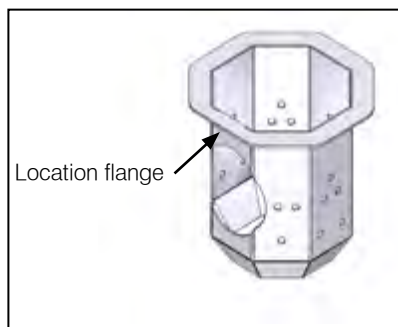

Figure 12-19: Flame pot flange
- Clean and inspect the brazier assembly, flame pot (refer to Figure 12-19), brazier base plate and brazier front plate.
The flange on one side of the octagonal pot is narrower than the other seven sides. Refer to Figure 12-19. This side **MUST** be located on the left hand side or the pot will not fit into the burner housing.